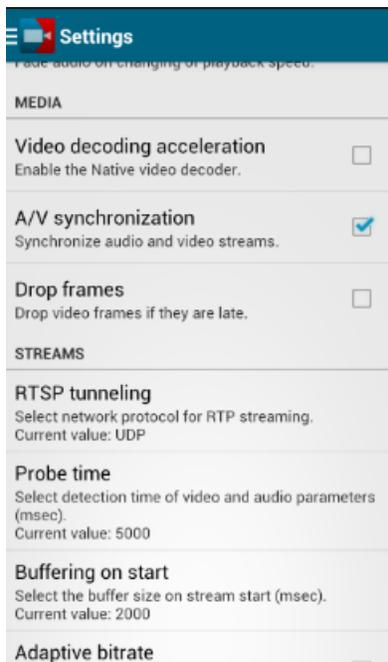

Figure 20. Media Settings
- Uncheck Video decoding acceleration and Drop frames under MEDIA, as shown in Figure 20.